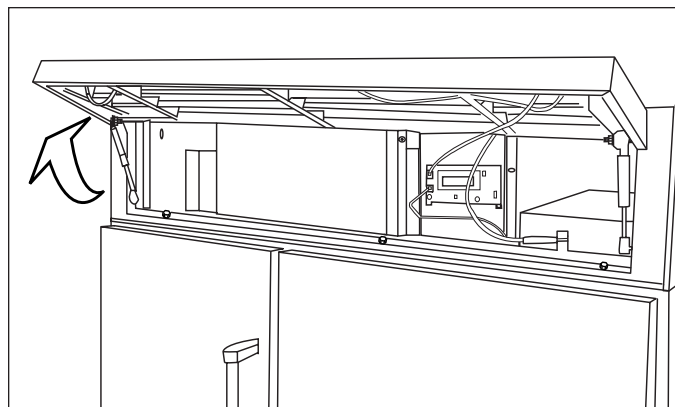

Figure 7-9. Lift Grille Louvers
1. Lift Louvered section of grille assembly up (See Figure 7-9).